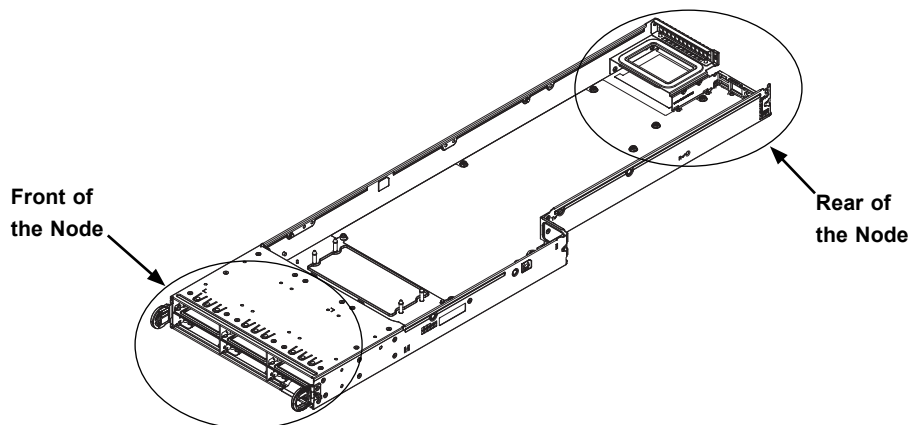

Figure 3-4. Front and Rear of the Node
Node configuration for a typical node is shown below in Figure 3-4.
- **IPMI > Server Health > NVMe SSD** – Shows the temperatures of all NVMe drives, as in Figure 3-4.